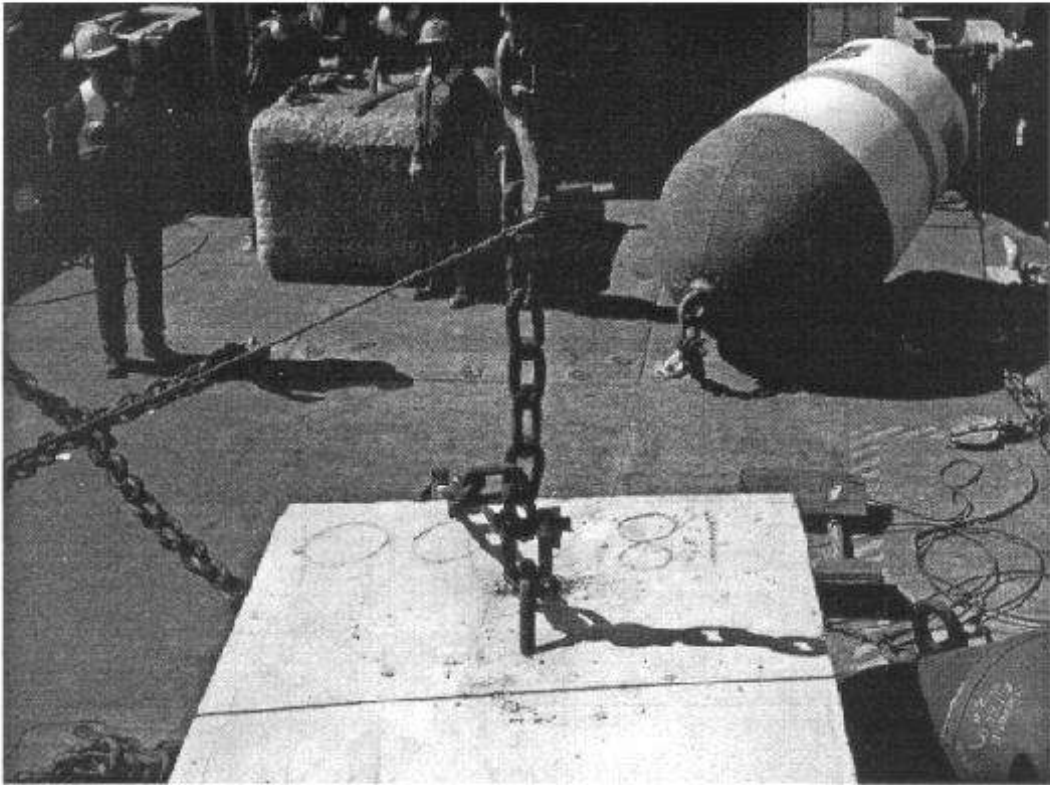

Fig. 8-5 Mooring shackled to sinker
- a If necessary, move the sinker to the deployment buoy port and gripe it to the deck. Shackle a bight of chain, 3 to 5 links from the end nearest the chain stopper, to the sinker bail. (See **Figure 8-5.**) Ensure that the bow or clevis of the shackle bears against the sinker bail and that the shackle pin passes through the chain link. **Do not shackle the bitter end of the chain into the sinker bail. Always leave a chain pigtail of 3 to 5 links to facilitate removing the hook once the sinker is hung in the chain stopper.**